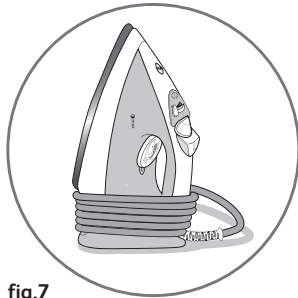

fig.7
- Store the cold iron on its heel (fig.7).